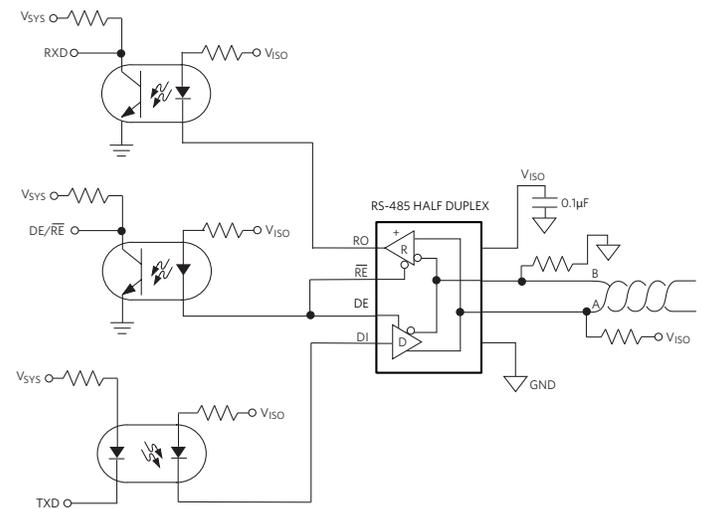

Figure 2. An isolated half-duplex RS-485 channel contains three or four optocouplers to accomplish full signal transceiver activity.
Bidirectional channels use half-duplex devices for communication over a pair of twisted cable. For the RS-485 device, the Rx and Tx terminals connect to the A (noninverting) and B (inverting) IC package pins. The receiver's output (RO) and the driver's input (DI) terminals connect to separate pins (Figure 2).
In certain applications, isolation from optocouplers or other isolators are required. The optocoupler channels in Figure 2 clearly illustrate the number of required lines for the RS-485 transceiver. Note the connection of the \overline{RE} and DE pins. In most applications, this connection is appropriate. In other applications, the \overline{RE} and DE pins are separate. The system processor or controller drives the \overline{RE} and DE control pins in response to the length of time that a node must stay enabled for transmitted packets of data, which vary from application to application.